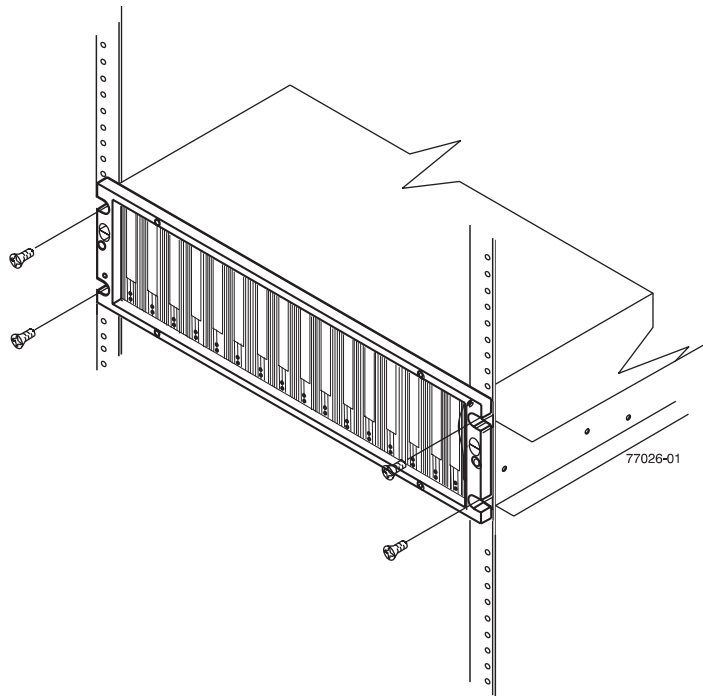

Figure 17. Securing the storage expansion enclosure to the Rack
4. Secure the storage expansion enclosure. Figure 17 on page 32 shows how to secure the storage expansion enclosure to the rack.
- c. Secure the front of the storage expansion enclosure using the four M5 screws as shown in Figure 17 on page 32.